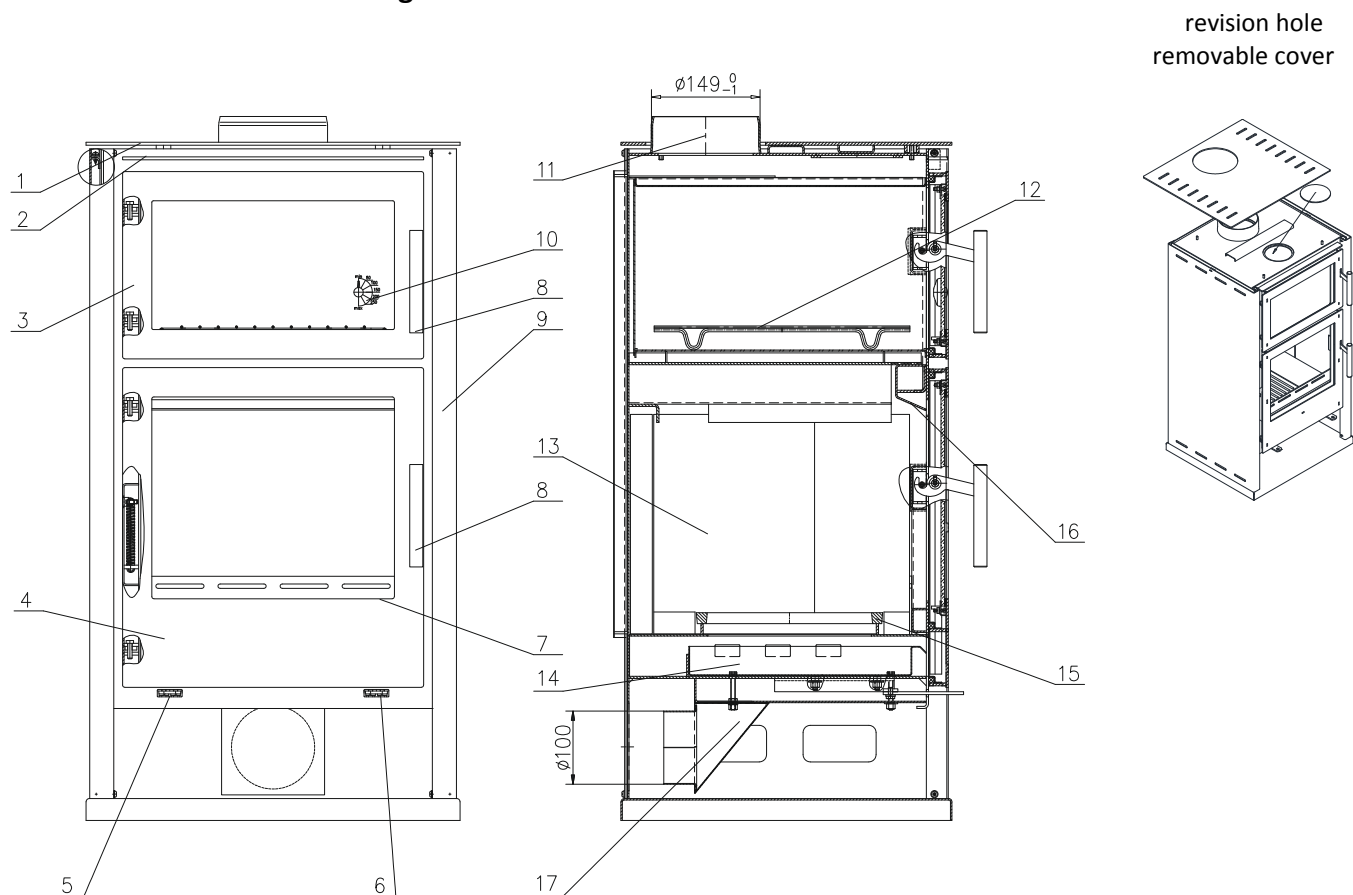
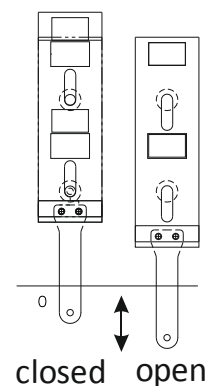

Fig. 1.
Fig. 4
Your stove is constructed with a built-in oven, which is intended only for heating dishes. The temperature in the oven depends on the intensity of burning and the amount of wood loaded. A thermometer is mounted on the oven door (Fig.1, Pos.3) to facilitate temperature control.
Under the top plate (pos.1, Fig.1) there is a revision hole, which is closed with a removable cover. This hole is for cleaning the surface above the muffle. It is advisable to remove the accumulated soot at least 2 times during the heating season.
The combustion process is regulated by the supplied primary and secondary air through the regulators (Fig.1, Fig. 4).
The primary air serves to ignite the stove and regulate the intensity of combustion. It is controlled by the position of the regulator (Fig.1, Pos.6). Moving the regulator outwards increases the combustion intensity and correspondingly decreases when moving in the opposite direction. When lighting the stove, it is desirable for the regulator (Fig.1, Pos.6) to be pulled out to the maximum, and after ignition to be pushed in to the maximum.
The secondary air is regulated by the position of the regulator (Fig.1, Pos.5). By moving the regulator outwards, fresh air enters through the rectangular profile on the left side of the combustion chamber and flows in front of the glass of the fire door. It is desirable for the regulator (Fig.1, Pos.5) to be pulled out to the maximum. It should not be closed during the combustion process. Often, to save fuel material, the secondary air regulator is closed shortly after ignition, contrary to our instructions. This leads to a restriction of the oxygen supply, which hinders combustion and the glass becomes soiled with soot. Harmful emissions are also released, which could lead to deposits in the chimney.